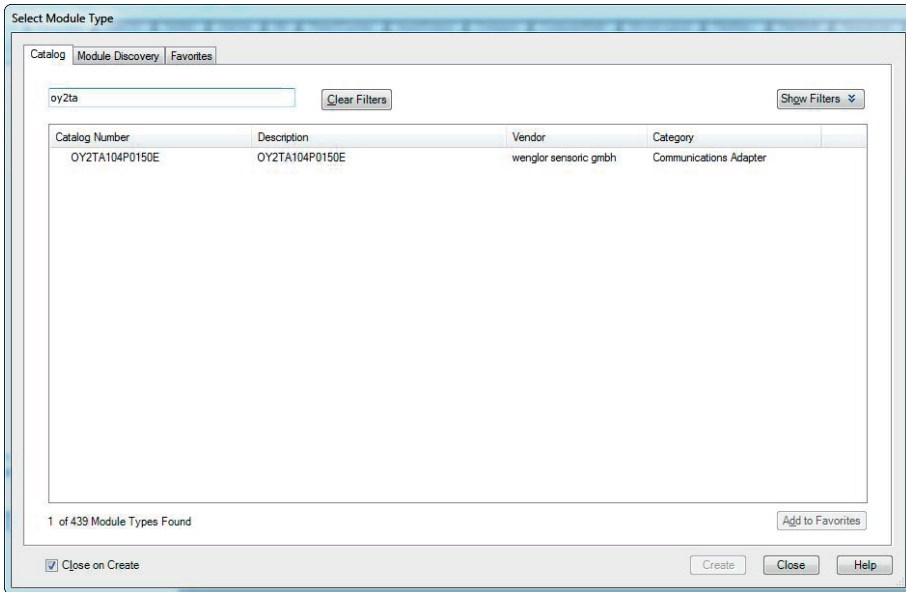

Figure 14: Catalog Search
- You can also look for devices in the “Catalog” tab. The OY2TA104P0150E transit time sensor is displayed in our example (see figure 14).